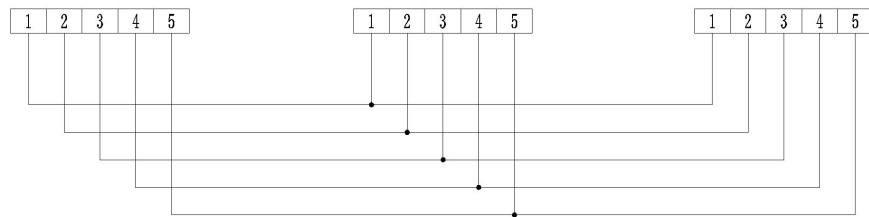

Figure 5.16 PCS Port Diagram
- ③ The lower terminals 1 and 2 of the double-wired terminal block at the rear of the energy storage cabinet are connected to the sixth and fifth last terminals of the grid-connected cabinet, respectively.
- ④ Terminals 3 and 4 on the lower level of the double terminal strip at the rear of the energy storage cabinet are connected to terminals 21 and 22 of the inverse power meter, respectively.
⑤ The lower terminals 5 and 6 of the double terminal block at the rear of the energy storage cabinet are connected to the penultimate and penultimate terminals of the grid-connected cabinet respectively.
⑥ The lower terminals 7 and 8 of the double-wired terminal strip at the rear of the energy storage cabinet are connected to the penultimate fourth and penultimate third terminals of the grid-connected cabinet, respectively.
⑦ Terminals 1 and 2 (lower level, double terminal strip, rear panel of ESS cabinet) should be connected to: terminals 21 (A+) and 22 (B-) of the inverse active power meter, or the RS-485 communication port (A+/B-) of the PV inverter.
⑧ The upper terminals 1 to 5 of the double terminal strip at the rear of the energy storage cabinet are the parallel connection terminals for the PCS units inside the energy storage cabinet. In projects requiring off-grid parallel operation, these terminals must be connected to each other in all storage cabinets, as shown in Figure 5.16.